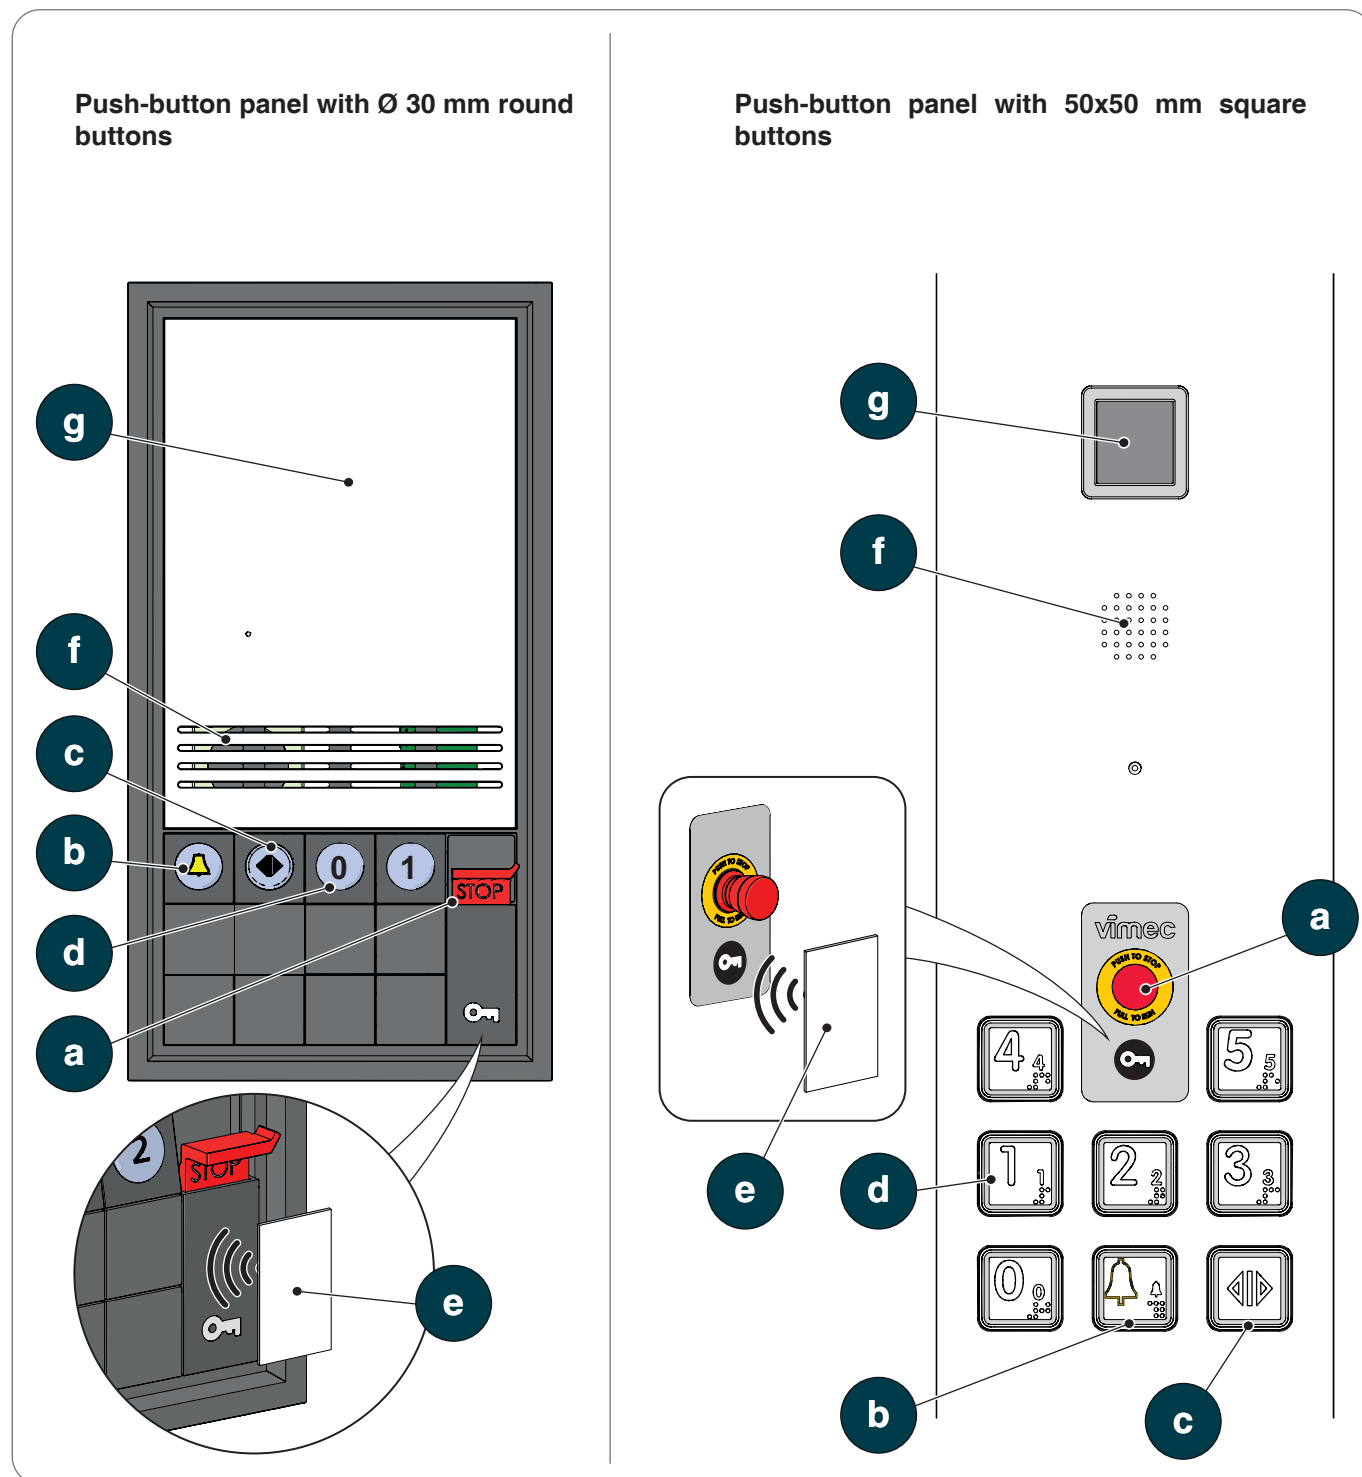

Fig. 7.1
NOTE: After entering the cabin, it is always possible to exit by pressing and holding the lit button for at least 2 seconds ◀▶ (c, Fig.7.1).
- Activation with **RFID key** (e, Fig.7.1)
- (1) - Standard ON/OFF function. Allows for the machine to be switched on or off after placing the key near the key-shaped icon on the push-button panel.
- (2) - Free access. After using the machine normally, it switches off automatically after two minutes.
- (3) - Restricted access. Only some manoeuvre buttons are enabled.
- (4) - Passe-partout. All cabin and floor manoeuvre buttons are enabled.
- Red **emergency STOP button** (a, Fig.7.1).
- **Alarm bell** button (b, Fig.7.1).
- **Run buttons** (d, Fig.7.1).
- **Door opening button** (c, Fig.7.1).
- **Display** (g, Fig.7.1) (optional). It can be of the 2.8" LCD or 7" TFT type; the indicators and lights in the different display models have the same functions, which are described from (Fig.7.3).
- **Telephone dialler** (f, Fig.7.1) (as an alternative to the telephone)
It must be programmed with numbers chosen by the user, which ensure the intervention of rescuers in the event of a fault. It is operated by pressing and holding the "alarm bell" button for the time set during installation (b, Fig.7.1); it also works in the event of a power failure (blackout) for up to 2h.
5) Alarm (yellow light) It lights up when the "alarm bell" button is held down and the telephone dialler is present (b, Fig.7.1). After a sufficiently long time to activate the alarm, (set during installation), emergency calls are made via the telephone dialler. In normal conditions, the light is off. In alarm conditions, the light is steady yellow. An audible signal is emitted as long as the "alarm bell" button is pressed.
6) Alarm received (green light) A few seconds after pressing the "alarm bell" button (b, Fig.7.1), emergency calls are made to the numbers set during installation, if the telephone dialler has been installed. When an operator is available and answers the call, the green light comes on. In normal conditions, the light is off. In alarm conditions, the light is steady green.
Press and hold the "alarm bell" button (b, Fig.7.1) to activate two sirens; the one installed on the main electrical panel and the one inside the platform. The system is set up for the connection of another alarm (visual or audible) that can be placed in any other place as long as it has a voltage of 24 Vdc 300mA max.
Press the "alarm bell" button (b, Fig.7.1) to activate the buzzers installed in the cabin and on the floors.